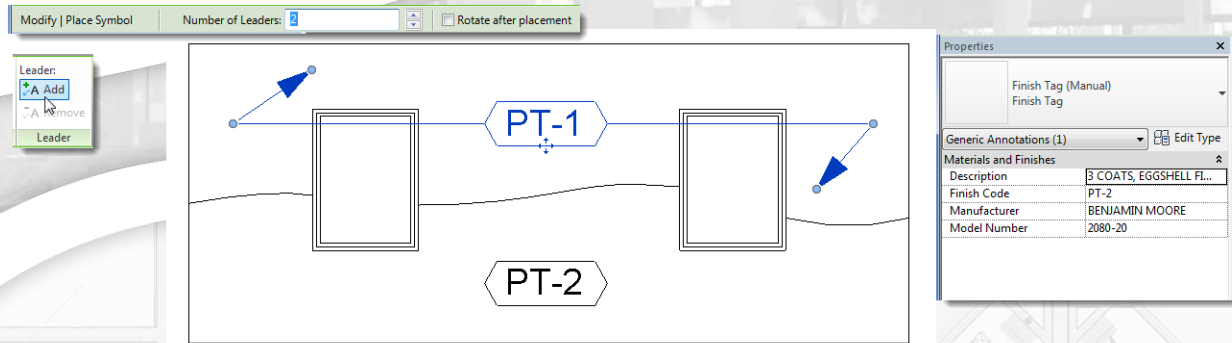

FIGURE 23 - ADD LEADERS WHILE PLACING SYMBOLS OR ADD THEM LATER
12. Like other annotation, you can select the symbol after you place it and then use the tools on the ribbon to add leaders if required. You can also add leaders while placing it on the Options Bar (see Figure 23).